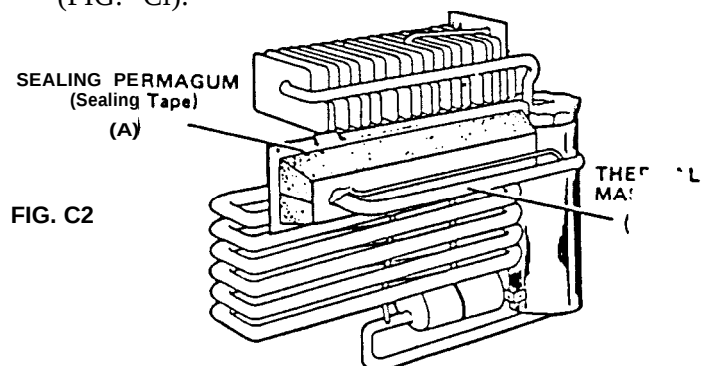

FIG. C2
2. Apply sealing permagum (sealing tape) on window insulation (A; FIG. C2).
3. Apply thermal mastic on the evaporator coil (B; FIG. C2).